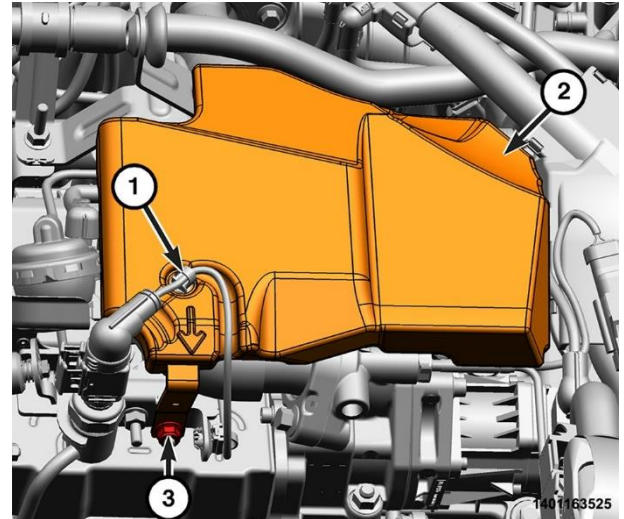

Figure 189 – Right Fuel Rail Cover
30. Loosen the right fuel rail cover nut (3), detach the wire harness retainer (1), and remove the fuel rail cover (2) (Figure 189).